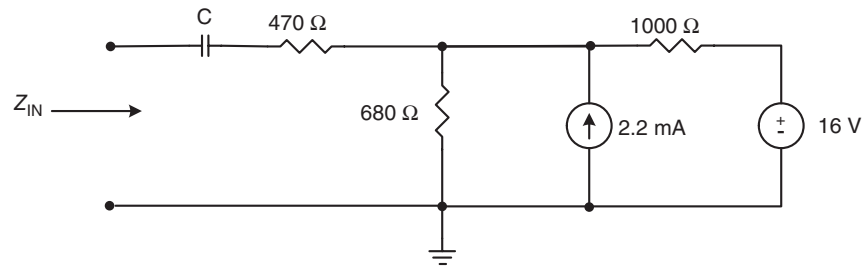

Figure 1.13. Circuit for Problem 1.5.
- 1.5** Compute the input impedance of the circuit of Figure 1.13 for AC signals. Assume the frequency is sufficiently high so the capacitor can be considered a short circuit.